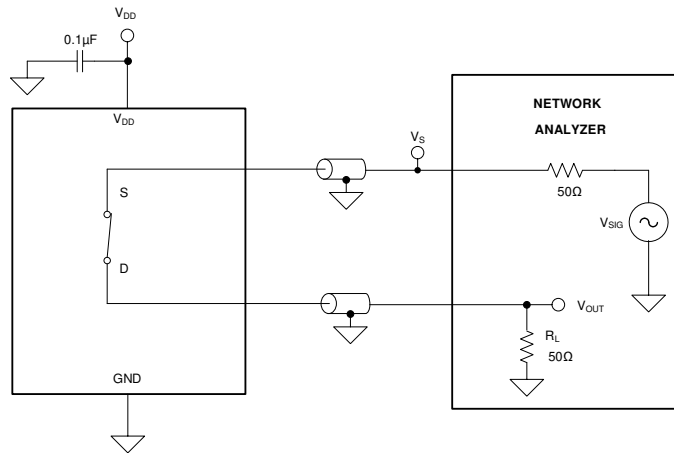

图 7-7. Bandwidth Measurement Setup
Bandwidth is defined as the range of frequencies that are attenuated by less than 3dB when the input is applied to the source pin (S) of an on-channel, and the output is measured at the drain pin (D) of the device. The characteristic impedance,  $Z_0$ , for the measurement is  $50 \Omega$ . 图 7-7 shows the setup used to measure bandwidth.